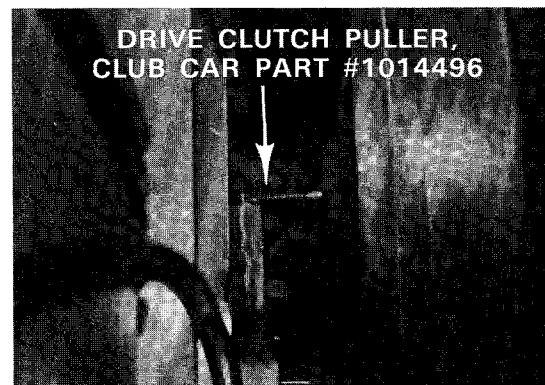

Figure 9-4
6. Remove complete drive clutch assembly by inserting drive clutch puller, CLUB CAR part # 1014496, and tighten bolt (**Figure 9-4**). As the bolt is tightened, the complete drive clutch assembly will come free of the crankshaft. While supporting the drive clutch in your hand, back the bolt out of crankshaft.